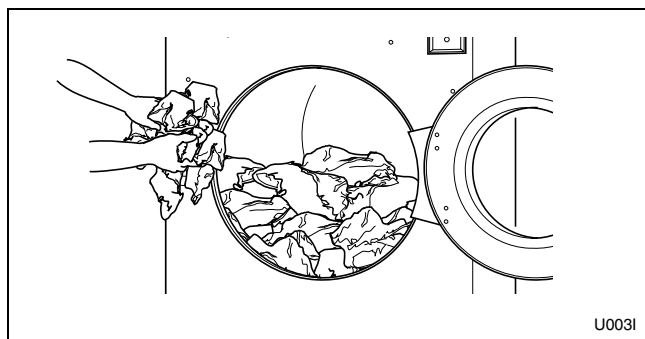

Figure 6
3. Load to capacity whenever possible. Refer to *Figure 6*.